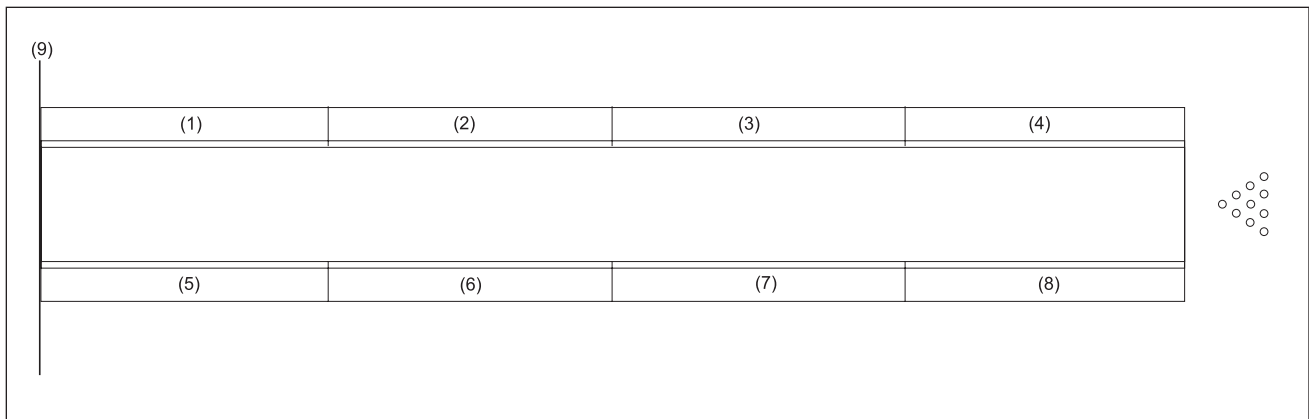

Figure 16. Gutter Location Stickers
1. Beginning with the L.H. foul line gutter, place the gutter section into position starting at the foul line and working toward the pin deck and repeat steps for the R.H. foul line gutter. Place the remaining three sections of gutter into position. Check for minimum distance of 1/4" (6.35 mm) from top of gutter to top of lane surface. Refer to *Figure 16*.